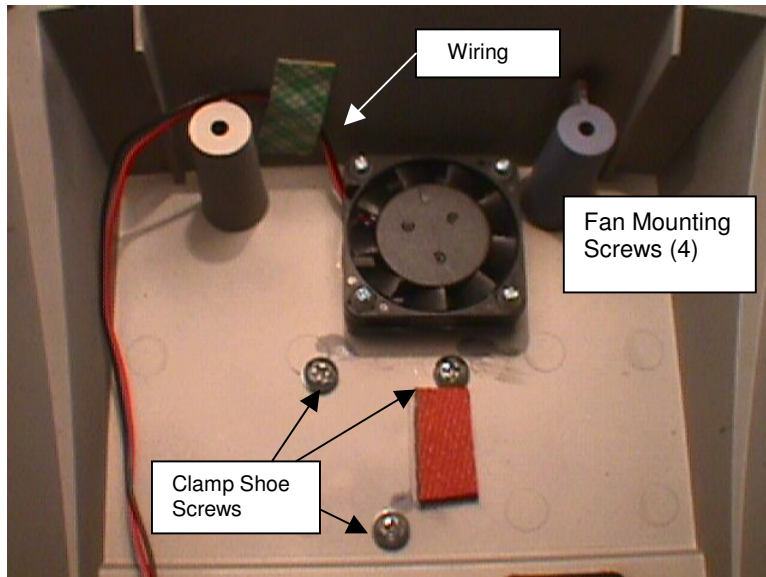

Figure 7-20 Fan wiring orientation and Clamp Shoe screws
3. Note wire orientation on installed fan (looking into case, wire exits fan upper left quarter). (See Figure 7-20).
1. Position fan over gasket with correct wire exit orientation and airflow is out of case. (See Figure 7-20).
3. Remove three screws securing shoe clamp assembly. (See Figure 7-20).